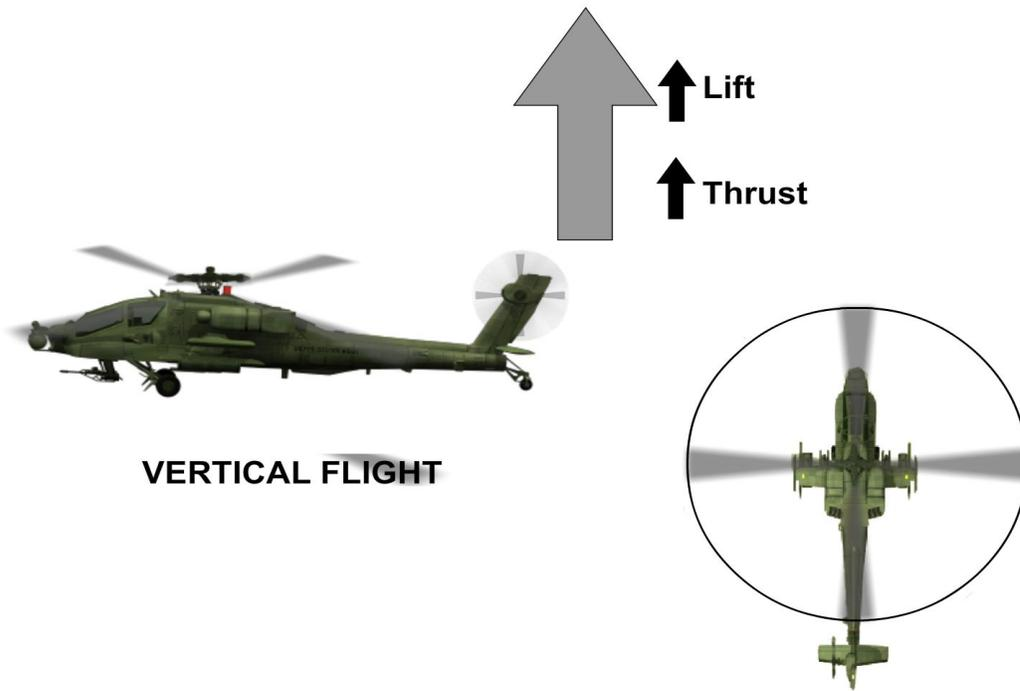

Figure 3-10 — Directional flight attitudes and torque reaction.
*Figure 3-10* points out another major difference between fixed-wing and rotary-wing aircraft. The fixed-wing aircraft cannot move up or down or right or left without forward movement. Remember, a fixed-wing aircraft's primary direction is forward. However, a helicopter can move in any direction, with or without forward movement.
As the helicopter's main rotor turns in one direction, the body (fuselage) of the helicopter tends to rotate in the opposite direction (Newton's third law). This is known as torque reaction. In a single main rotor helicopter, the usual way of getting rid of torque reaction is by using a tail rotor (anti-torque rotor). This rotor is mounted vertically on the outer portion of the helicopter's tail section (*Figure 3-10*). The tail rotor produces thrust in the opposite direction of the torque reaction developed by the main rotor. *Figure 3-10* shows the manner in which torque reaction is eliminated in a single main rotor helicopter.